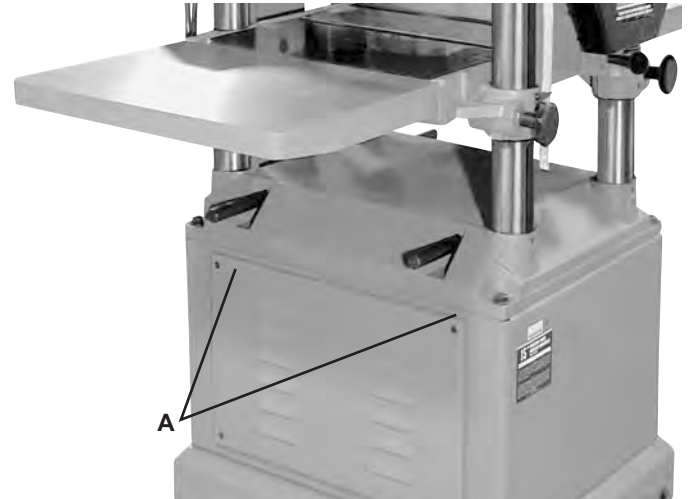
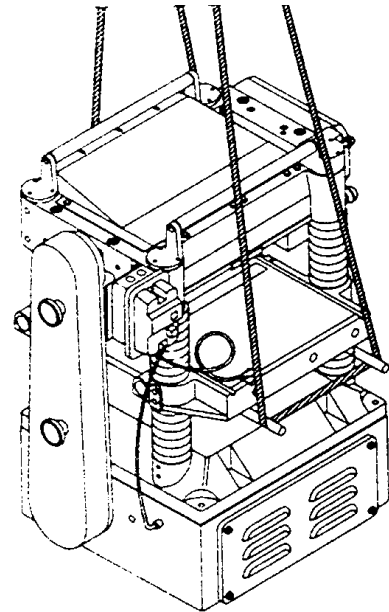

FIGURE 3
FIGURE 4
There are four lifting handles to facilitate the transportation of your planer. All lifting handles are the pull out type. Pull the handles out for use, push them back in when not in use. Two of the lifting handles (A) are as shown in Fig.3 & Fig.4.
If any type of sling is used to lift machine, be sure to only attach the sling to the lifting handles. Be sure that machine is kept in level position while lifting, as shown in Fig.4.